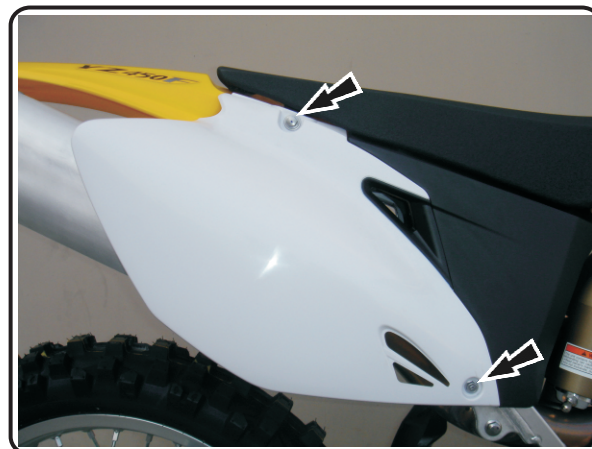

Fig. 1
1. Remove right rear number plate (see Fig. 1 for bolt locations).